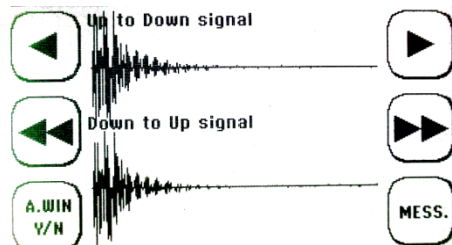
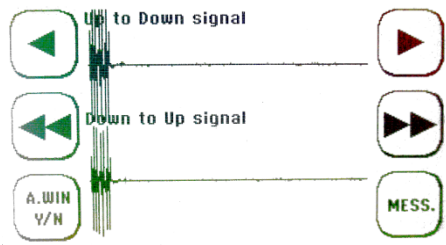

Figure 23: Transducer connected, no acoustic contact (without Magnalube)
Figure 24: Transducer not connected (relicts of the transmitted signals)
- 3) In contrast, in the case of defective ultrasonic transducers or signal cables, **ONLY** the relicts of the transmitted signals can be seen immediately from the start of the measurement window. The signal characteristics range between Figure 23 and Figure 24. Transmitted signal relicts can also appear with correctly functioning transducers but are then small compared to the useful signals.